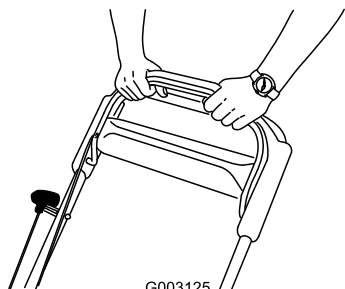

Figure 20
3. Hold the blade control bar against the handle (Figure 20).